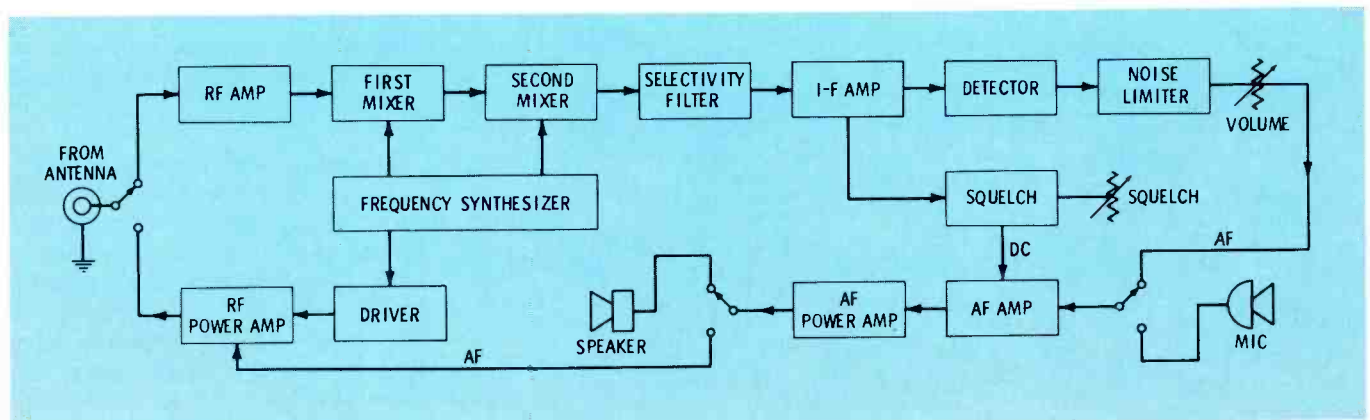

Fig. 2 Block diagram of a 23-channel CB transceiver.
- Fig. 2—sophisticated CB transceiver